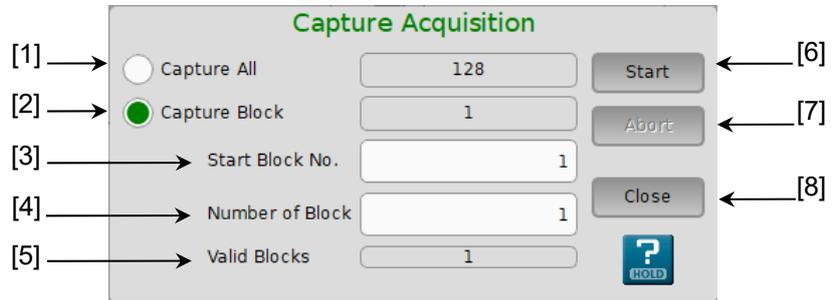

Figure 5.15.1-6 Capture Acquisition Dialog Box
**Figure 5.15.1-5 Buttons in result display selecting area for selecting capture result display format****Table 5.15.1-5 Buttons for selecting capture result display format**
After the captured data is acquired by touching **Acquisition**, touching **Bit Pattern** (refer to Figure 5.15.1-5) displays the Bit Pattern window. In this window, the captured test patterns are displayed in a bit pattern string so that Insertion Error and Omission Error can be distinguished.